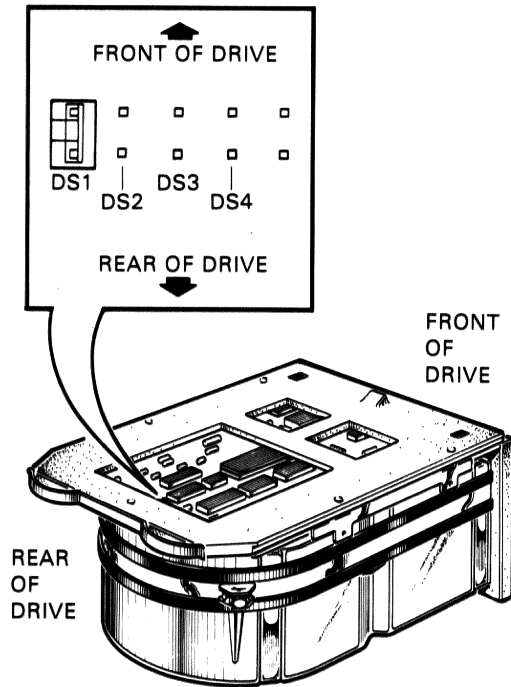

Figure 2-5 RD52 Fixed Disk Drive
2.3.2.1 RD52 Configuration – The RD52 read/write PC board has five pairs of pins (Figure 2-5) that are used to select the drive. To configure an RD52 as drive DU0, place a jumper on pin-pair DS3.